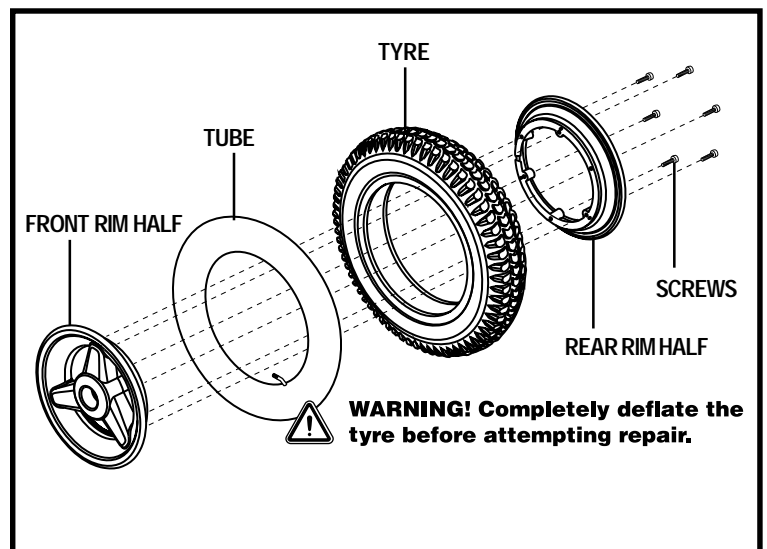

Figure 30. Drive Wheel Assembly
4. Remove the screws that hold the rim halves together. See figure 30.